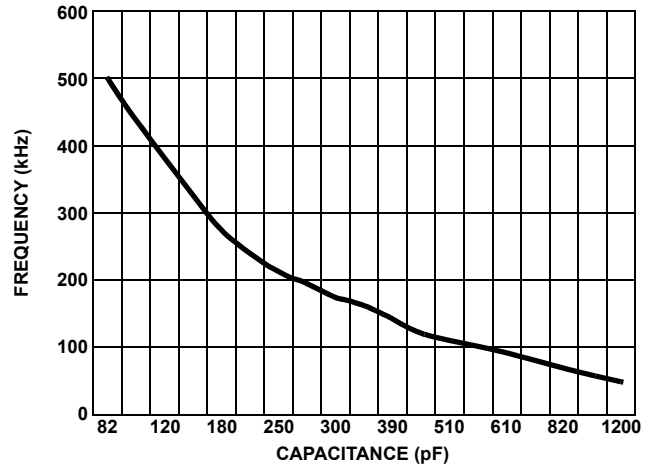

FIGURE 5. OUTPUT SWITCHING FREQUENCY vs CT
**Switching Frequency** - The gate driver output switching frequency can be programmed from 50kHz to 600kHz by adjusting the capacitor value on the CT pin (C5). Figure 5 can be used as a guideline in selecting the capacitor value required for a given frequency.